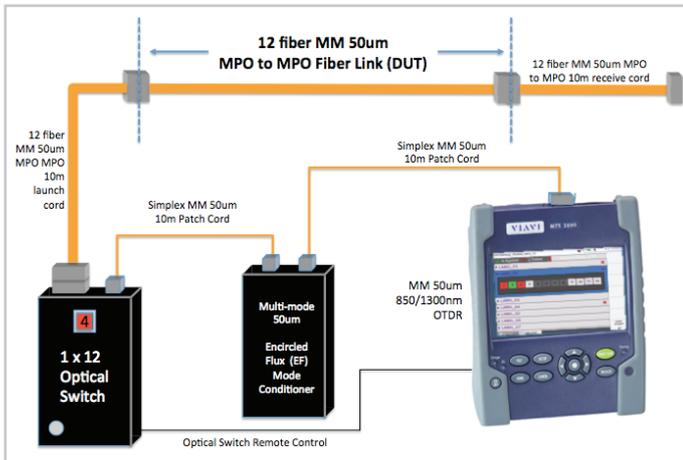

Figure 6. MPO Link Test Setup for faster testing
- a. An EF mode conditioner device can be inserted during testing between the OTDR (or other test source) and the fiber under test. This device conditions the launch signal for EF compliance before the test signal enters the fiber under test (see Figure 6 later in this document). When paired with an external mode conditioner, the T-BERD/MTS 2000 or 4000 allows any 50um multimode test source to provide testing results that comply with the new EF standards.